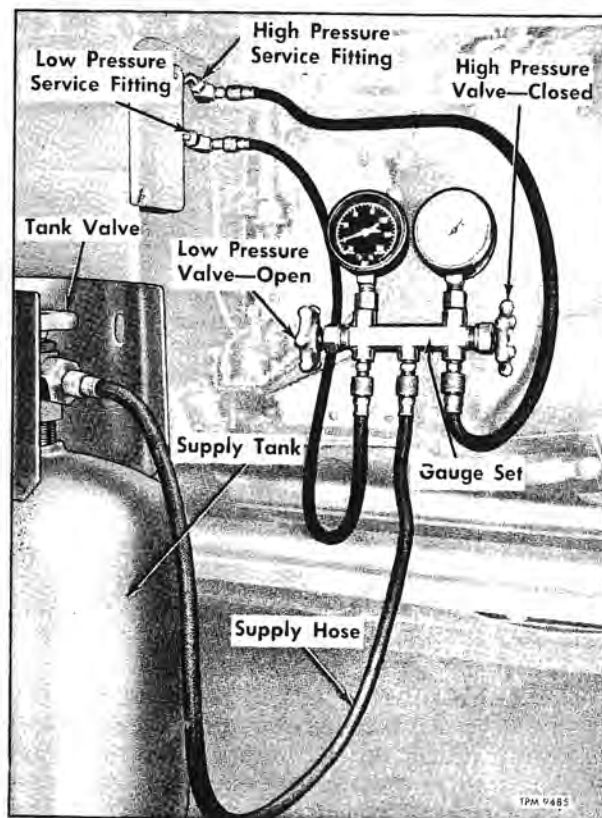

Figure 125—Charging System
**NOTE:** Generally, refrigerant is admitted to the low pressure (suction) side of system in a gas state - refrigerant supply tank retained upright (fig. 125). Refrigerant which is admitted too fast into system may cause slugging in the compressor or it may cause the oil to leave the compressor.